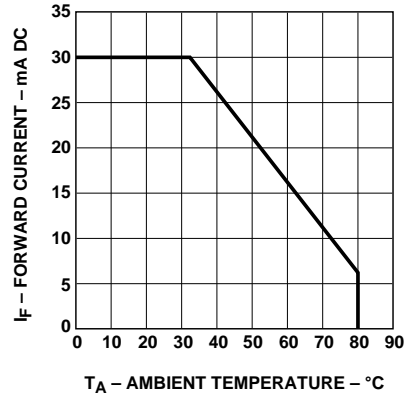

Figure 6. Maximum DC Forward Current vs. Ambient Temperature. Derating Based on  $T_J$  Max. = 115 °C.
- Derate linearly from 50  $^\circ\text{C}$  as shown in Figure 6.